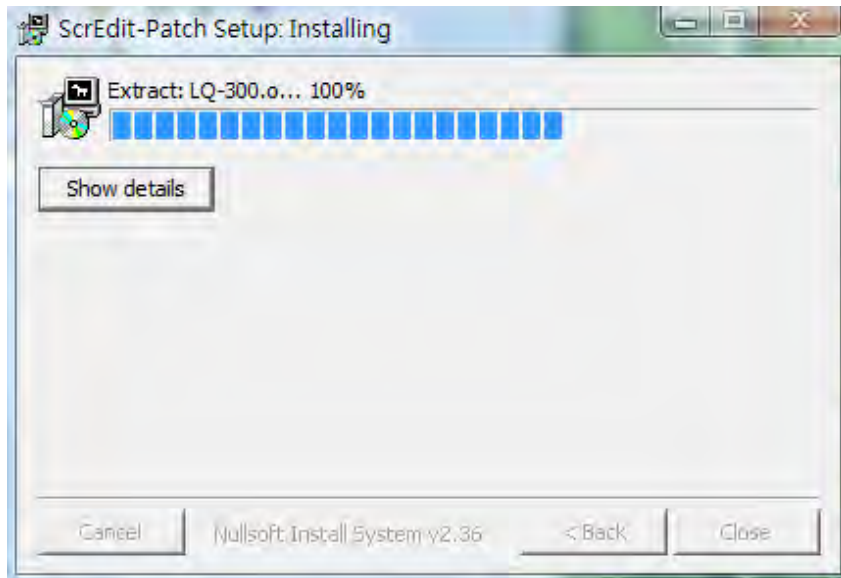

Fig. 3-1-9 Starting installation
Step 2: During installation, the user can click **Show details** button to see the detailed items (Fig. 3-1-9).